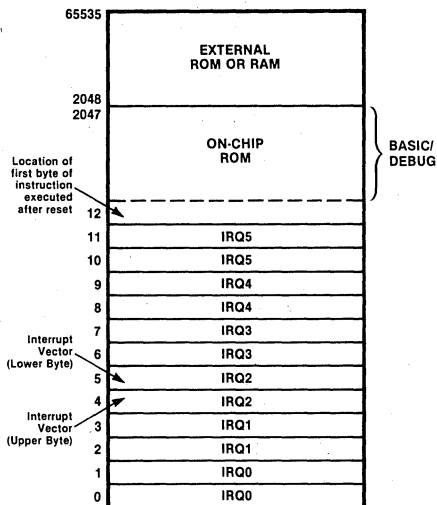

Figure 4. Program Memory Map
**Program Memory.** The Z8671's 16-bit program counter can address 64K bytes of program memory space. Program memory consists of 2K bytes of internal ROM and up to 62K bytes of external ROM, EPROM, or RAM. The first 12 bytes of program memory are reserved for interrupt vectors (Figure 4). These locations contain six 16-bit vectors that correspond to the six available interrupts. The BASIC/Debug interpreter is located in the 2K bytes of internal ROM. The interpreter begins at address 12 and extends to 2047.